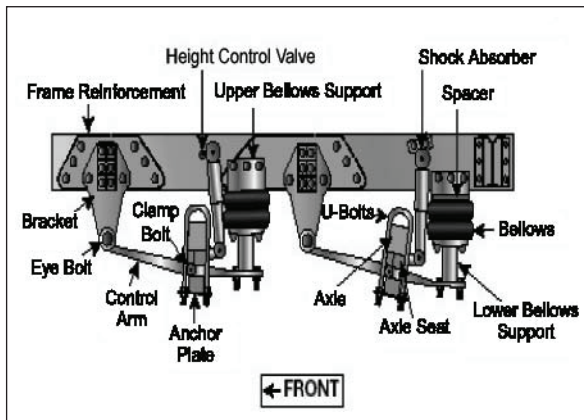

Figure 2.4
- Air suspension systems that are damaged and/ or leaking. See Figure 2.4.